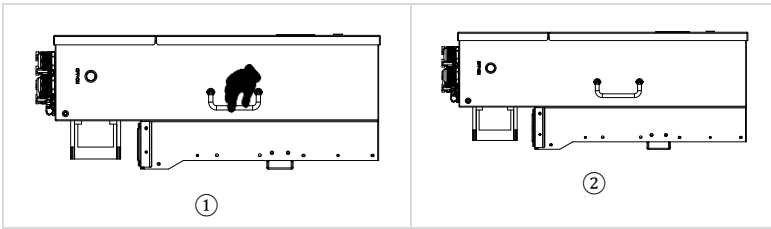

Figure 4-4 Moving the inverter
Step 1 Open the packaging, insert hands into the slots on both sides of the inverter and hold the handles, as shown in figure 4-4.